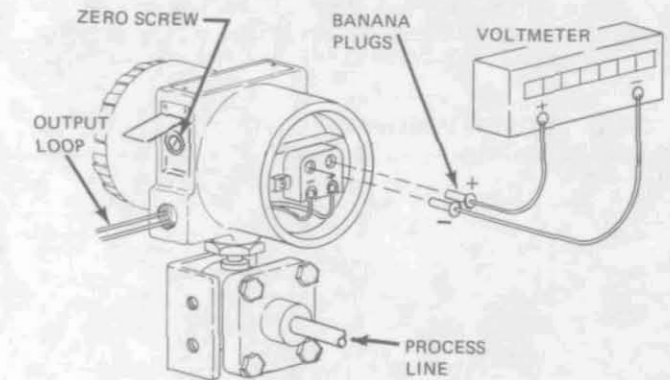

Figure 10
1. Connect voltmeter (Figure 10) to output test connections in field-terminal compartment in topworks. Close shutoff valve at transmitter.